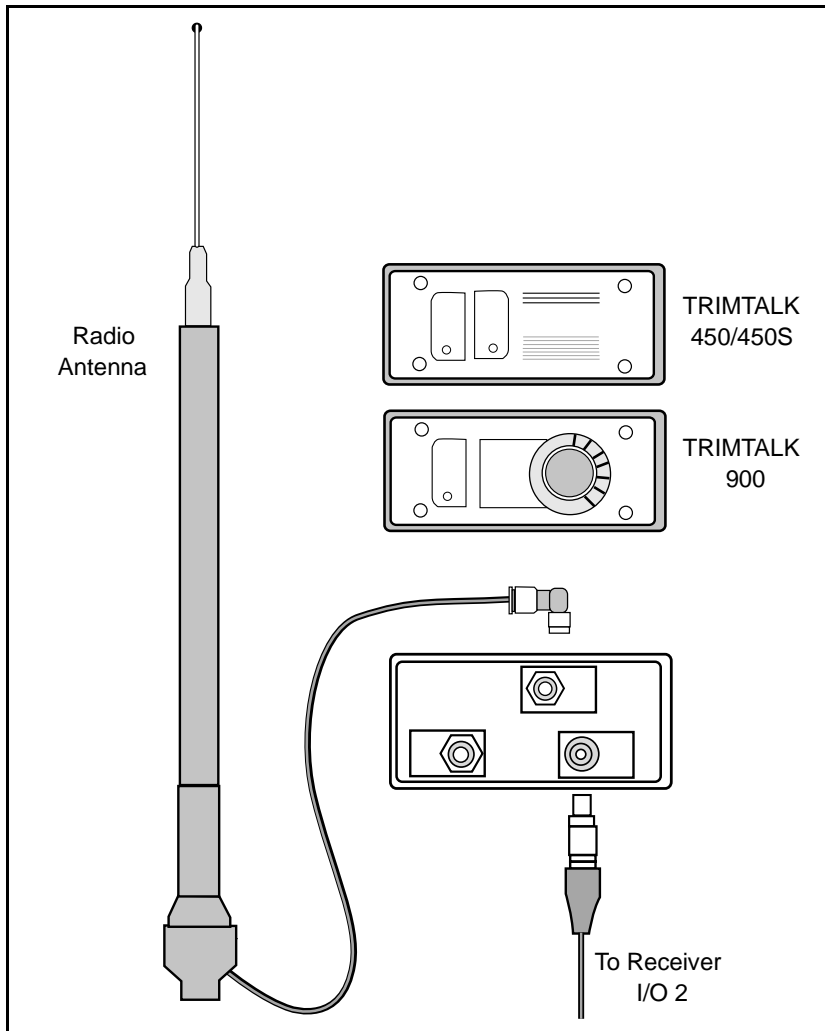

Figure 8.7 Radio and antenna setup
3. Assemble and erect the radio antenna, then connect the radio antenna to the radio using the cable attached to the antenna, as shown in Figure 8.7.